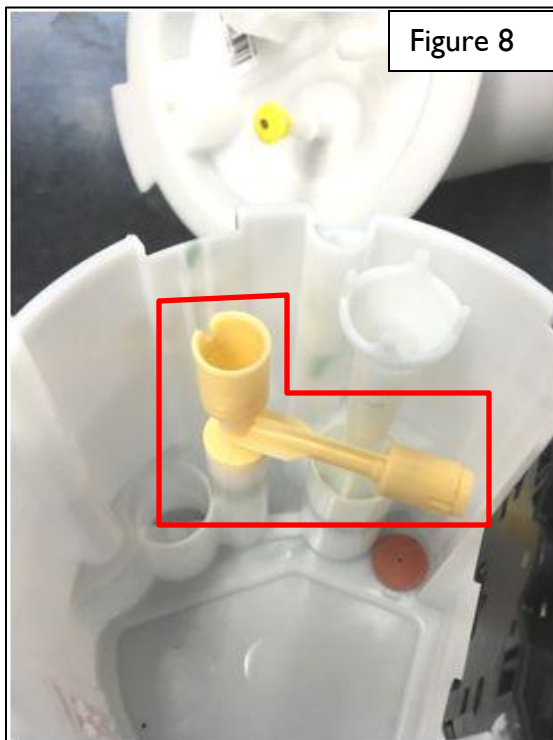

Figure 8
9. Inside the fuel cup there is a tan-colored plastic tee. Pull this part out and carefully remove the O-ring. This O-ring will be reused. The plastic tee will be discarded (see Figures 8 and 9).